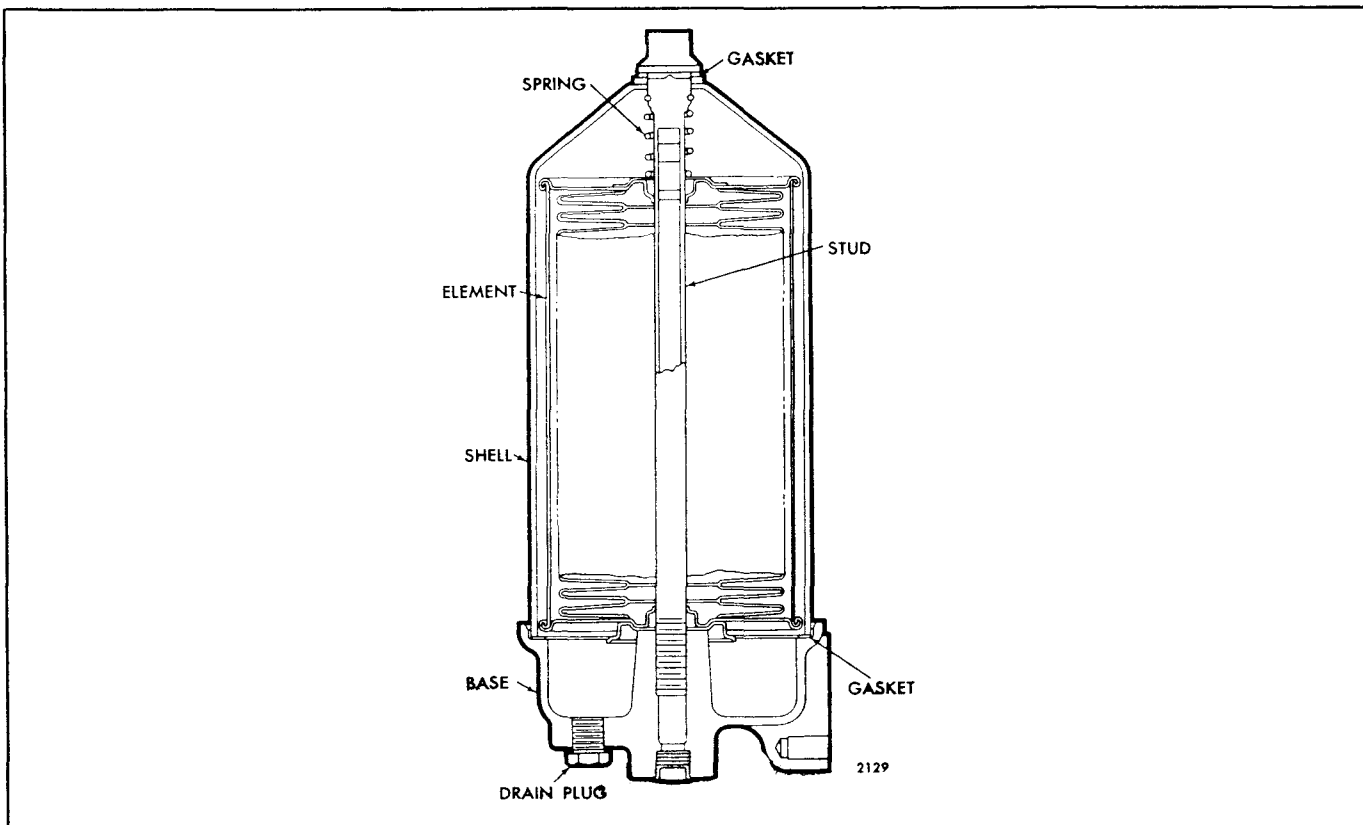

Fig. 3 - By-Pass Oil Filter Details
Replace the element in either the full-flow or by-pass type oil filter assembly (Figs. 3 and 4) as follows:
5. Examine the element retainer seal (Fig. 3) for hardening or cracks. If necessary, replace the seal.